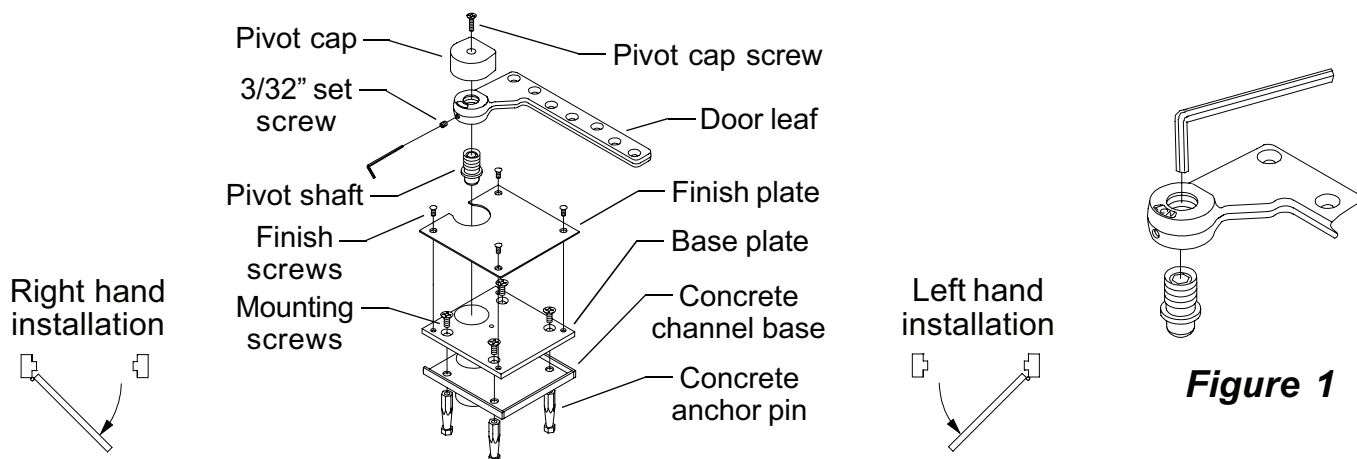

Figure 1
- b. Use 5/16" Allen wrench to adjust pivot shaft height as needed (Figure 1).